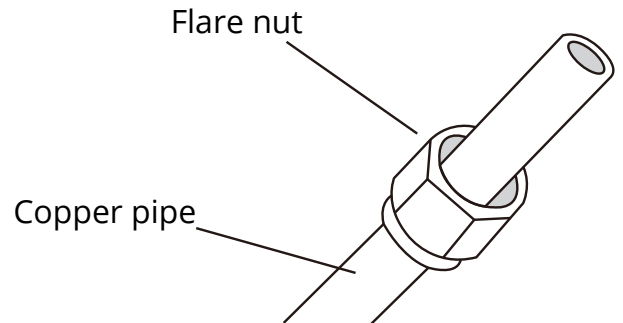

Fig. 2.11
2. Remove the cut-off valve of outdoor unit and take out the flare nut from the bag of indoor unit accessories. Fit the flare nut on the pipe, as shown in **Fig 2.11**.